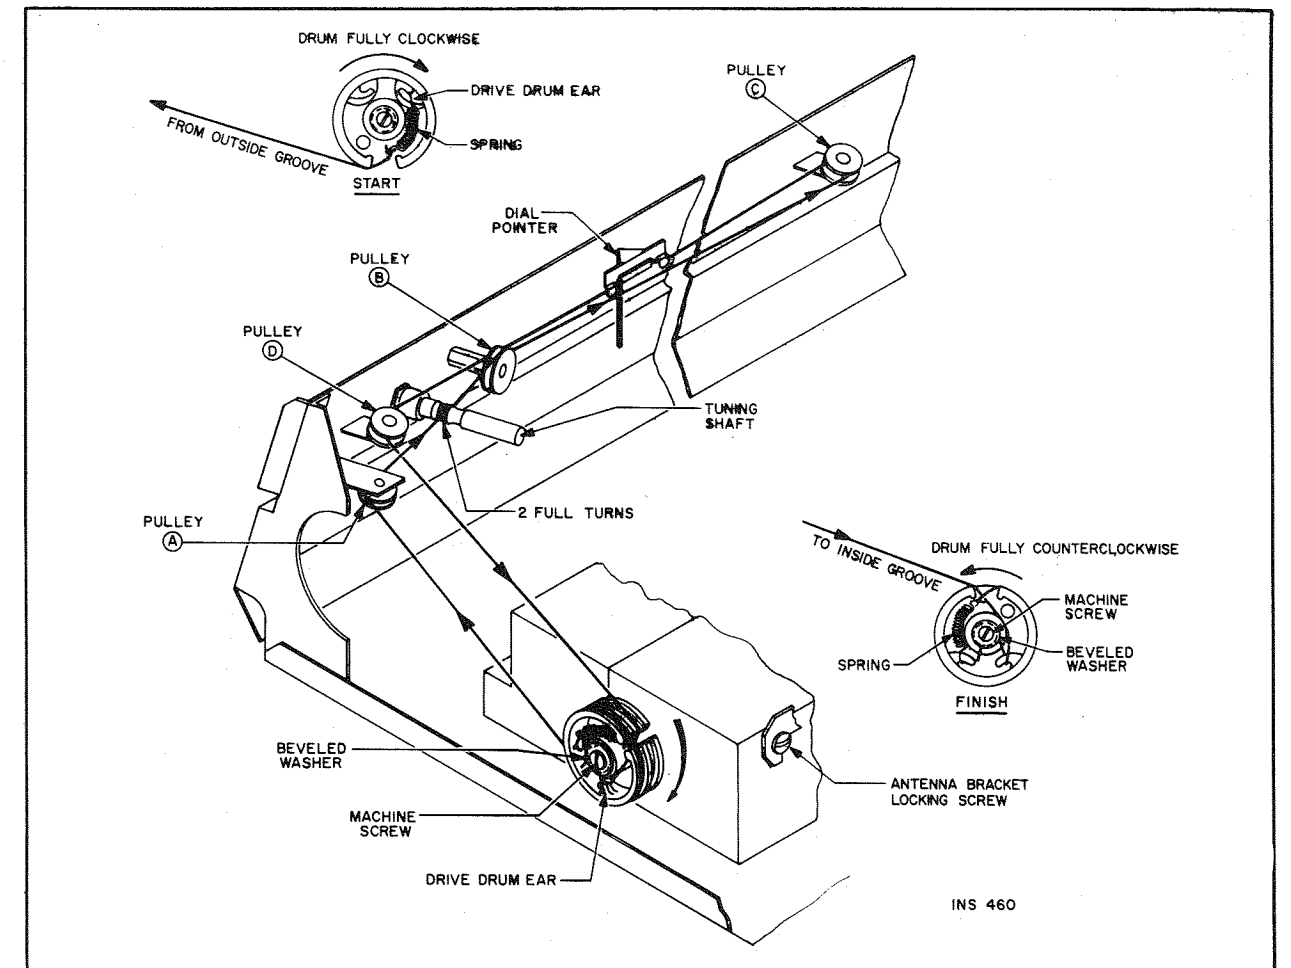

Figure 1.
- (1) Disconnect AC power cord.
- (2) Remove motorboard. Refer to REMOVING MOTORBOARD procedure.
- (3) Remove dress panel. Refer to REMOVING DRESS PANEL procedure.
- (4) Remove the dial pointer from the dial cord.
- (5) Prop the unit on its left side. Remove the right wood side-panel by removing the two slotted screws near the feet on the right side.
- (6) Loosen the AM antenna bracket locking screw (see Figure 1) and lift antenna bracket away from drive-drum.
- (7) Rotate the tuning capacitor drive-drum to its maximum CW position. Loosen the machine screw in the center of the drum and remove the old dial cord.
- (8) Tie end of new dial cord to one end of dial spring. Fasten to top right ear inside drive-drum. See Figure 1.
- (9) Run the dial cord through the slot in the rim of the drum and set in the bottom of the outside groove. Guide the dial cord around pulley "A", across and underneath the tuning shaft. Wrap 2 full turns (CCW viewed from back) around the tuning shaft.
- (10) Guide the dial cord over pulley "B", across the front, around pulley "C", and back and around pulley "D". Keep the dial cord taut during this procedure.
- (11) Rotate the drive-drum to its maximum CCW position, allowing the cord to wind onto the drive-drum. Keep the dial cord taut during this procedure.
- (12) Run the dial cord over the top of the drive-drum (in inside groove) and into the rim slot. Bring the cord around the drive-drum ear and place the cord under the beveled washer.
- (13) With the machine screw loosened, pull the dial cord taut and tighten the screw.
- (14) Turn the tuning shaft to rotate the drive-drum fully CW and fully CCW to distribute the tensioning along the dial cord. Repeat steps (13) and (14) until spring is tensioned.
- (15) Rotate the AM antenna bracket back to its original position and tighten the locking screw.
- (16) Place the dial cord over and under the tabs on the rear of the dial pointer, and place the pointer on the top of the rail.
- (17) Turn the tuning shaft fully CCW. Slide the dial pointer to zero (0) calibration mark on logging scale while holding tuning shaft fully CCW. Cement dial pointer to dial cord to prevent slippage. Allow cement to thoroughly dry. Check dial calibration. Refer to FM FRONT END ALIGNMENT and AM RF ALIGNMENT.
- (18) Reinstall the dress panel.